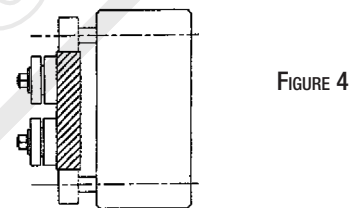

FIGURE 4
5. It is likely that the work piece may tend to bend to the right or left. (Figure 4 & 5) To prevent this the guide rollers will need to be adjusted. The guide rollers can be adjusted either at the top or the bottom to control the direction of the work piece.